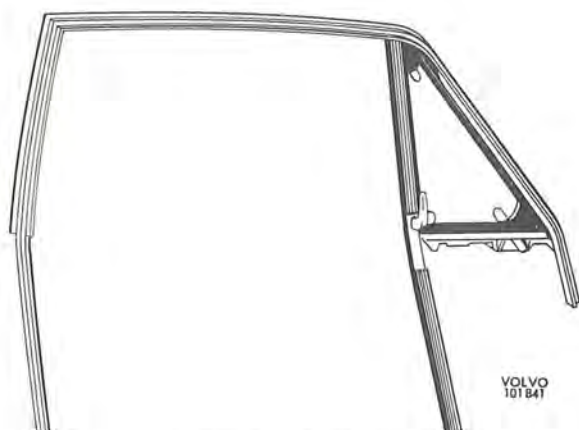

Fig. 8-14. Door frame
3. After the rubber strip round the ventilation window has been removed from the groove all round, the window with strip can be taken off, see Fig. 8-14.